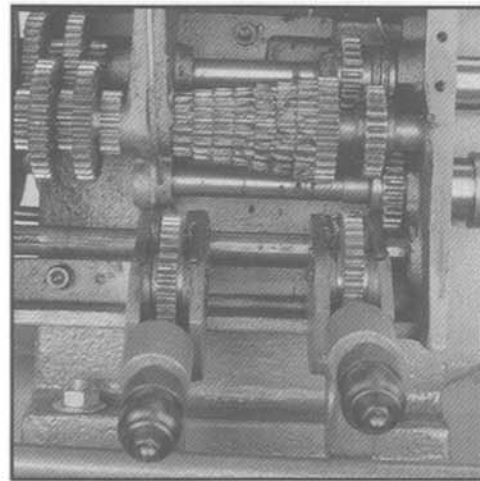

Figure 8
10. Once the cover is off, you can remove the cap screws holding it in place. The gearbox is pinned to the head casting. Pull straight away to remove it. See Figure 8.